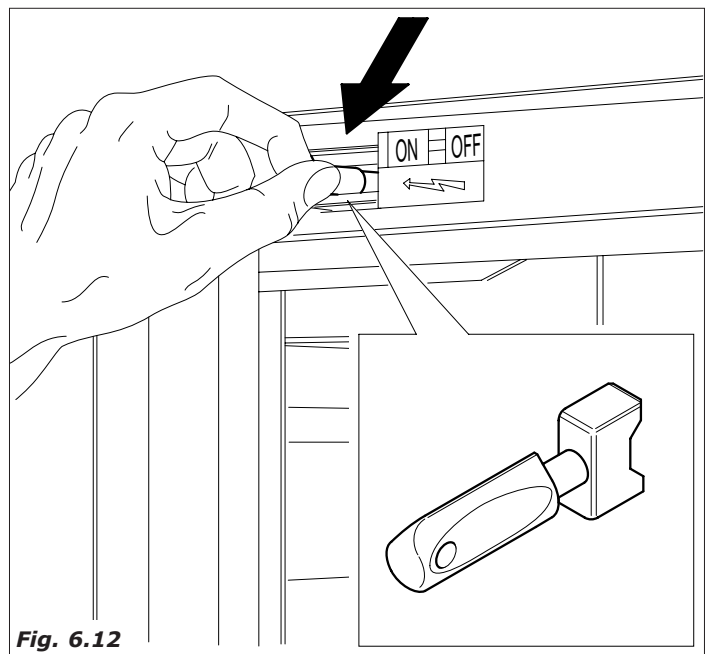

Fig. 6.12
It is possible for installation technician, to operate in this way, by inserting the special plastic key, supplied with the distributor, into the door switch and rotating it 90° (Fig.6.12).
- insert the key in the door switch (Fig.6.12)
- Insert the key in the door switch (see Fig.6.12) and wait until water flows out of the drain hose.